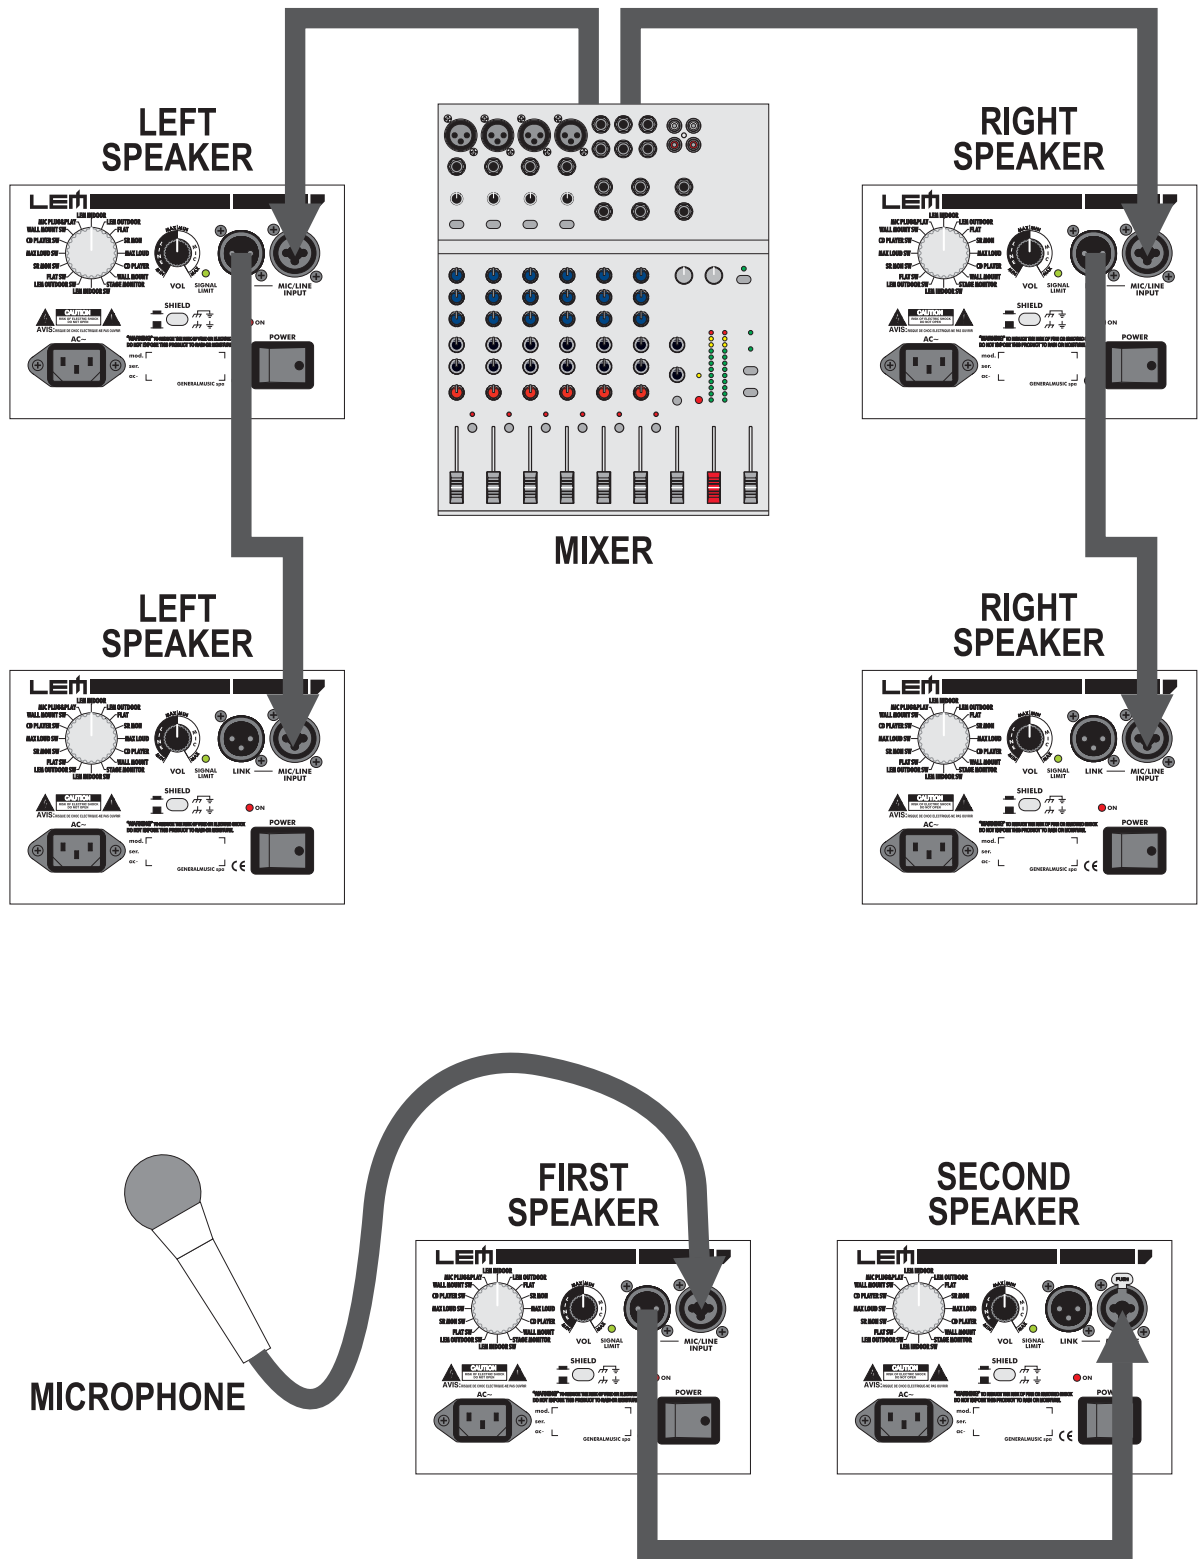

FIG. 6 - DPPM MODULE - Connection panel
6. DPPM module - Connection panel (fig. 6)